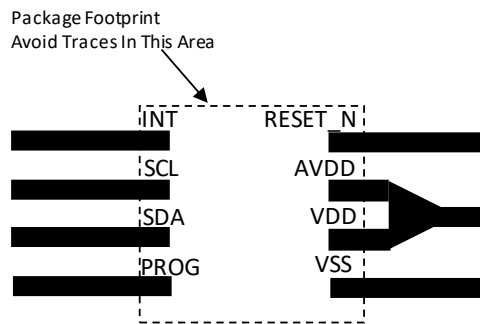

Figure 3. Recommended trace layout
- Do not place vias or traces within the transceiver footprint (Figure 3)